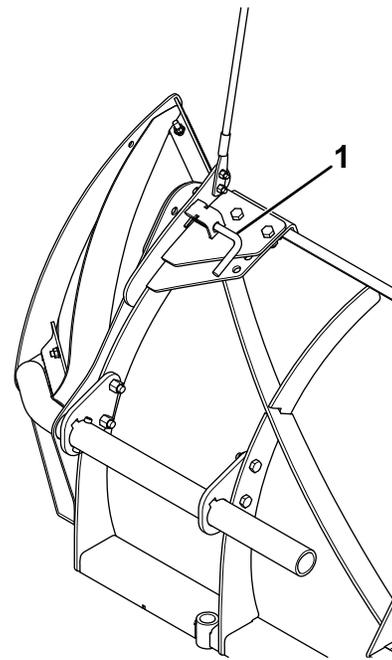

Figure 20
- Rotate the plow wing forward and lock it in place with the spring pin (Figure 20).